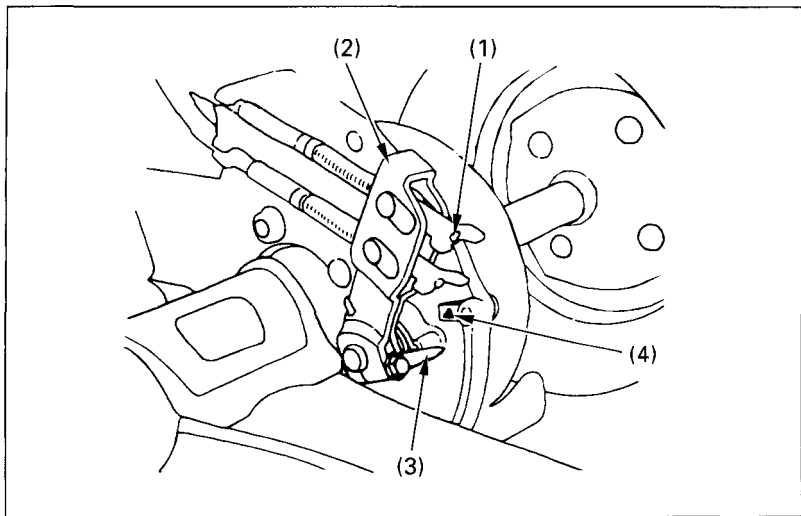

Fig. 4-29 (1) Brake lever adjusting nut (2) Brake arm (3) Arrow (4) Reference mark
When the brake is applied, an arrow (3) attached to the brake arm (2) moves toward a reference mark (4) on the brake panel (see Fig. 4-29).